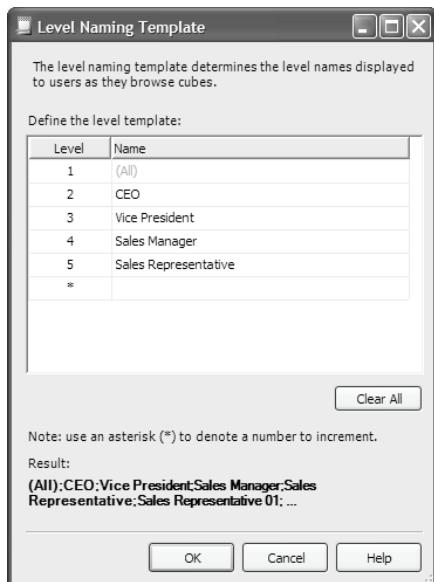

Figure 4.26 Use a naming template to provide more descriptive level names.
2. Create additional level names, as shown in Figure 4.26.